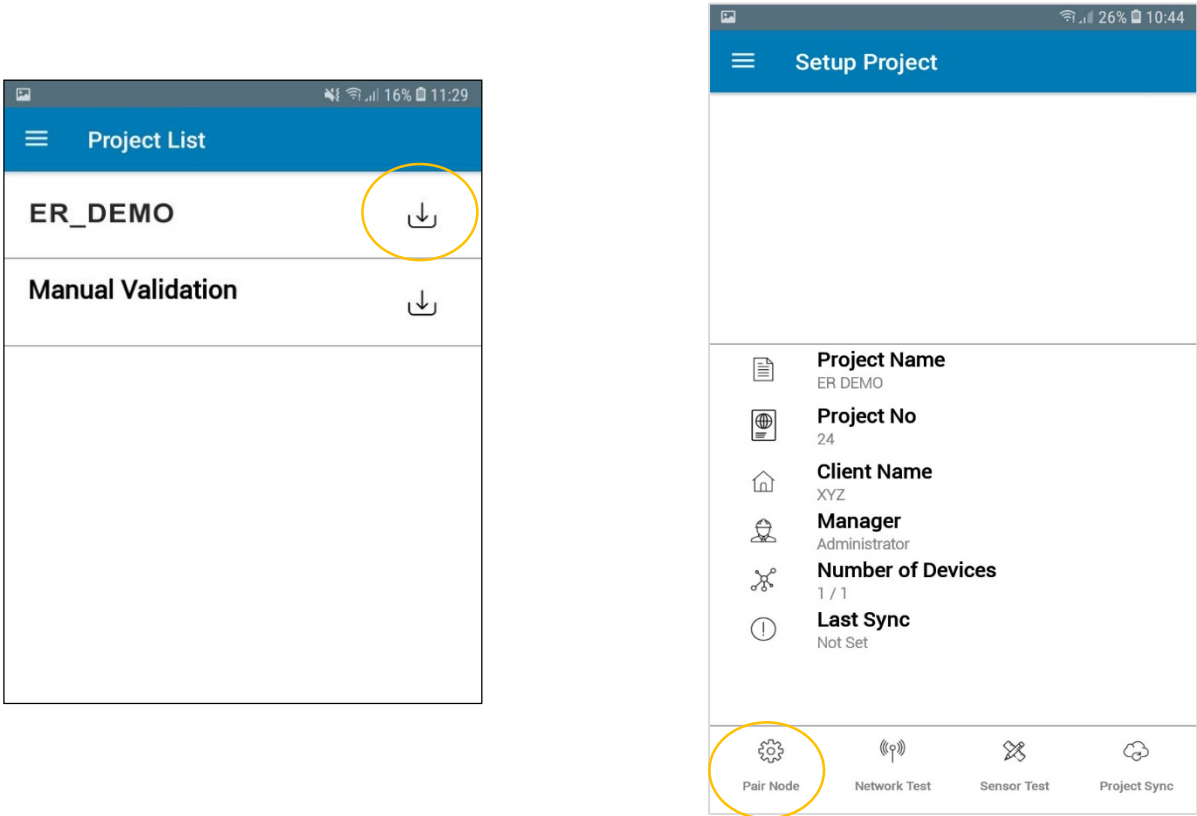
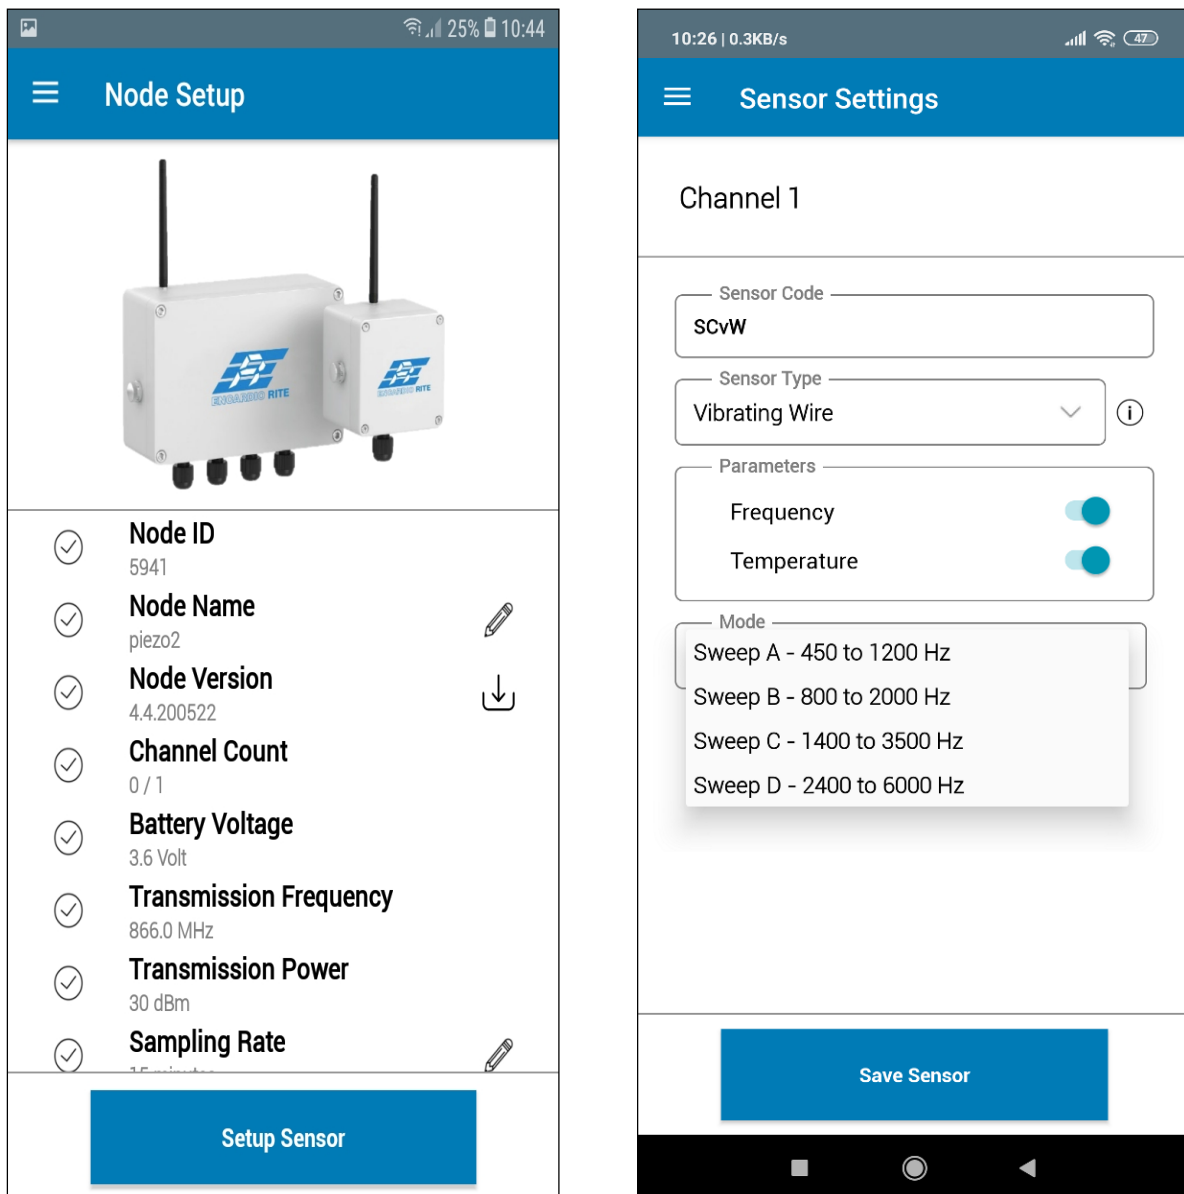

Figure 3-43
Figure 3-44
6. Click on “Pair Node” on the menu (at the bottom of the screen (right side) in figure 3-43), the app will show connected node information. Click on the ‘Setup Sensor’ as shown in left side screenshot in figure 3-44.
7. Sensor details will appear under Sensor setting screen as shown in right side screen in figure 3-44. Click on Save Settings. The Node will now read the configured sensor.